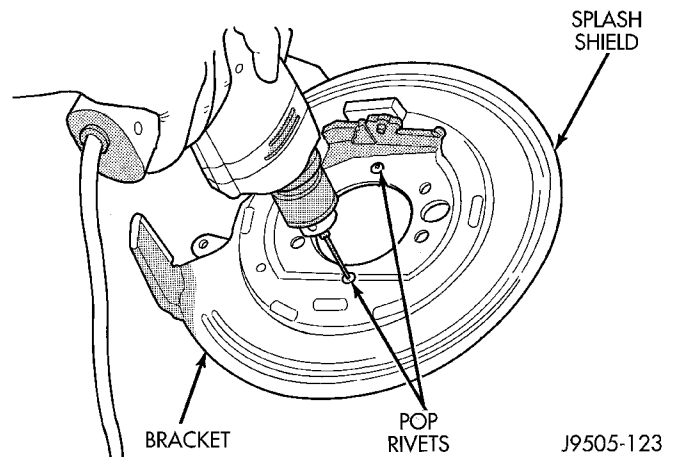

Fig. 53 Drilling Out Splash Shield Rivets
- (1) Raise vehicle and remove wheel and tire assembly.
- (2) Remove caliper bolts and lift caliper off rotor and bracket. Suspend caliper from chassis or suspension component with wire.
- (3) Retract parking brake shoes and remove rotor.
- (4) Remove axle shaft, refer to Group 3 Differential and Driveline.
- (5) Remove parking brake shoes from splash shield.
- (6) Remove nuts attaching splash shield and caliper bracket to axle tube flange.
- (7) Remove splash shield and caliper bracket from axle studs and work lever out of rear cable eyelet.
- (8) Mark position of splash shield and bracket for assembly reference. Use paint or scribe to mark parts.
- (9) Drill out rivets that retain splash shield to caliper bracket (Fig. 53). If rivet heads did not come completely off after drilling, remove remaining pieces with small chisel.